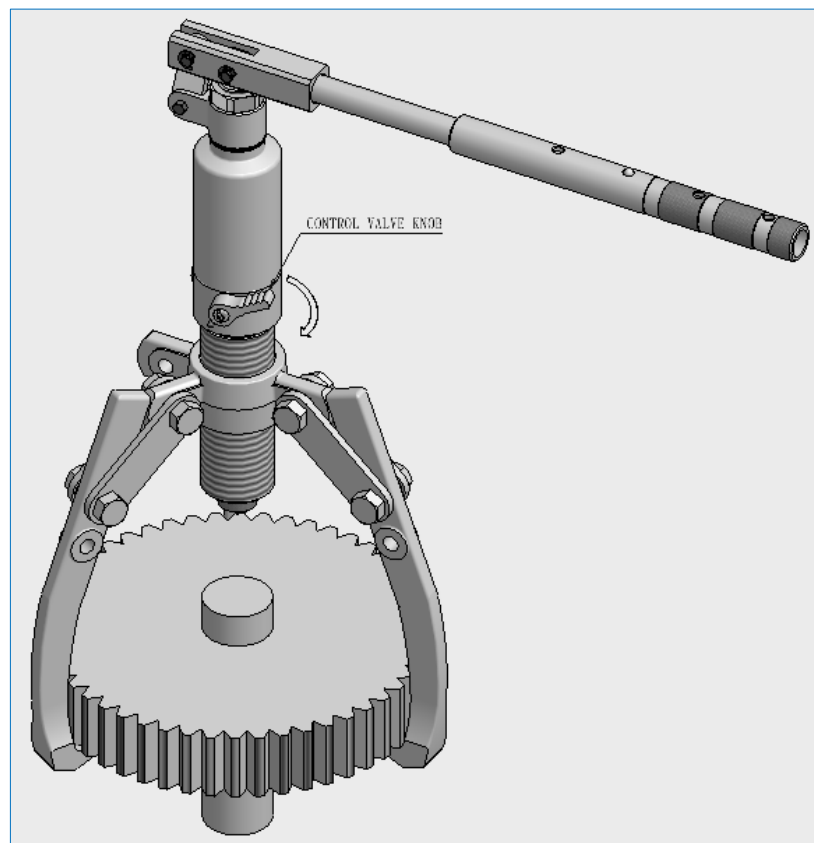

Figure 2 – Advance the Piston
- 5.1.3 Turn the control valve knob fully (clockwise) to advance the piston. See Figure 2.